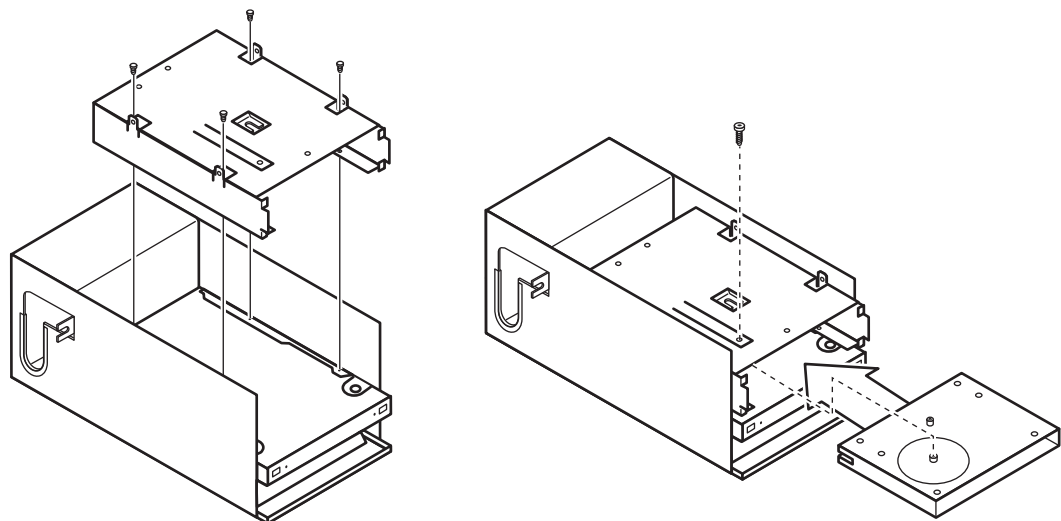

Figure 22: Reinstalling a media detect station
7. Install the new media detect station (see Figure 22):